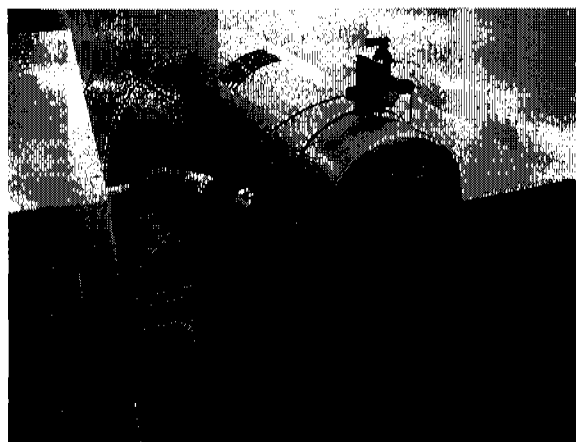

Figure 3.8. Eclipse connected to the Model 4552
7. Replace the Eclipse front and sparge mount covers (Figure 3.8).